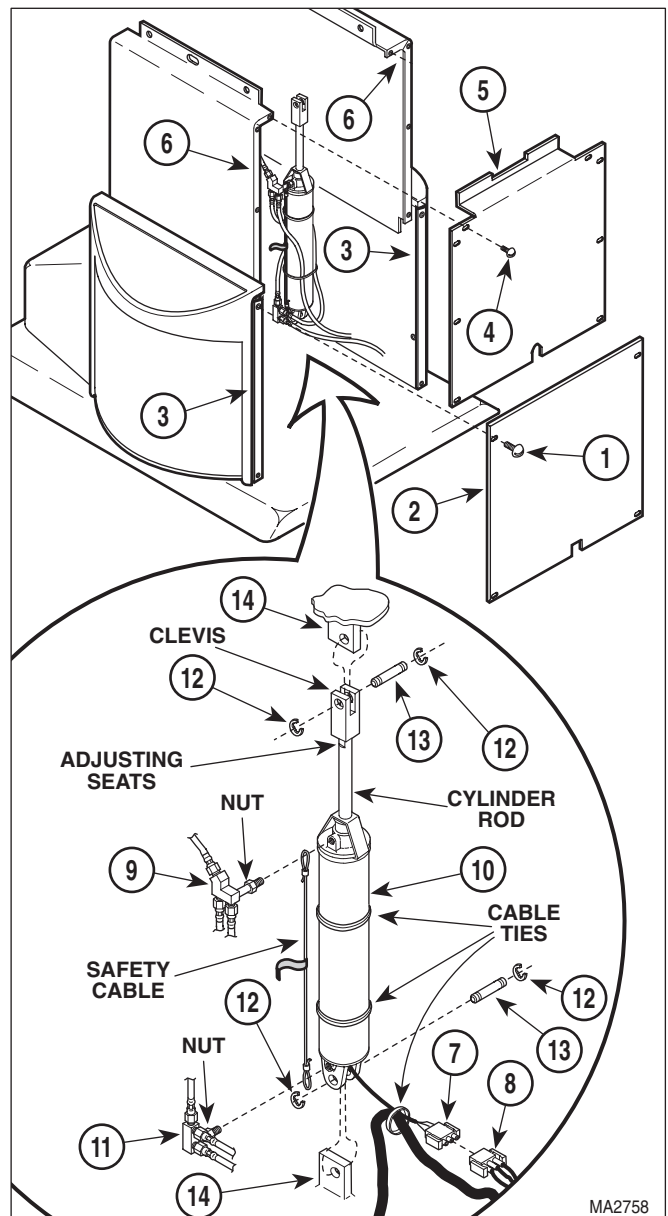

Figure 4-13. Tilt Cylinder Removal / Installation
- (1) If possible, lower TILT DOWN function all the way down.
- (2) Raise FOOT UP function all the way up.
- (3) Unplug table power cord from outlet.
- (4) Remove four screws (1, Figure 4-13) and front outer shroud (2) from left and right hand outer shrouds (3).
- (5) Remove eight screws (4) and front inner shroud (5) from left and right hand inner shrouds (6).
- (6) Cut cable tie which secures tilt cylinder wire harness (7) in place.